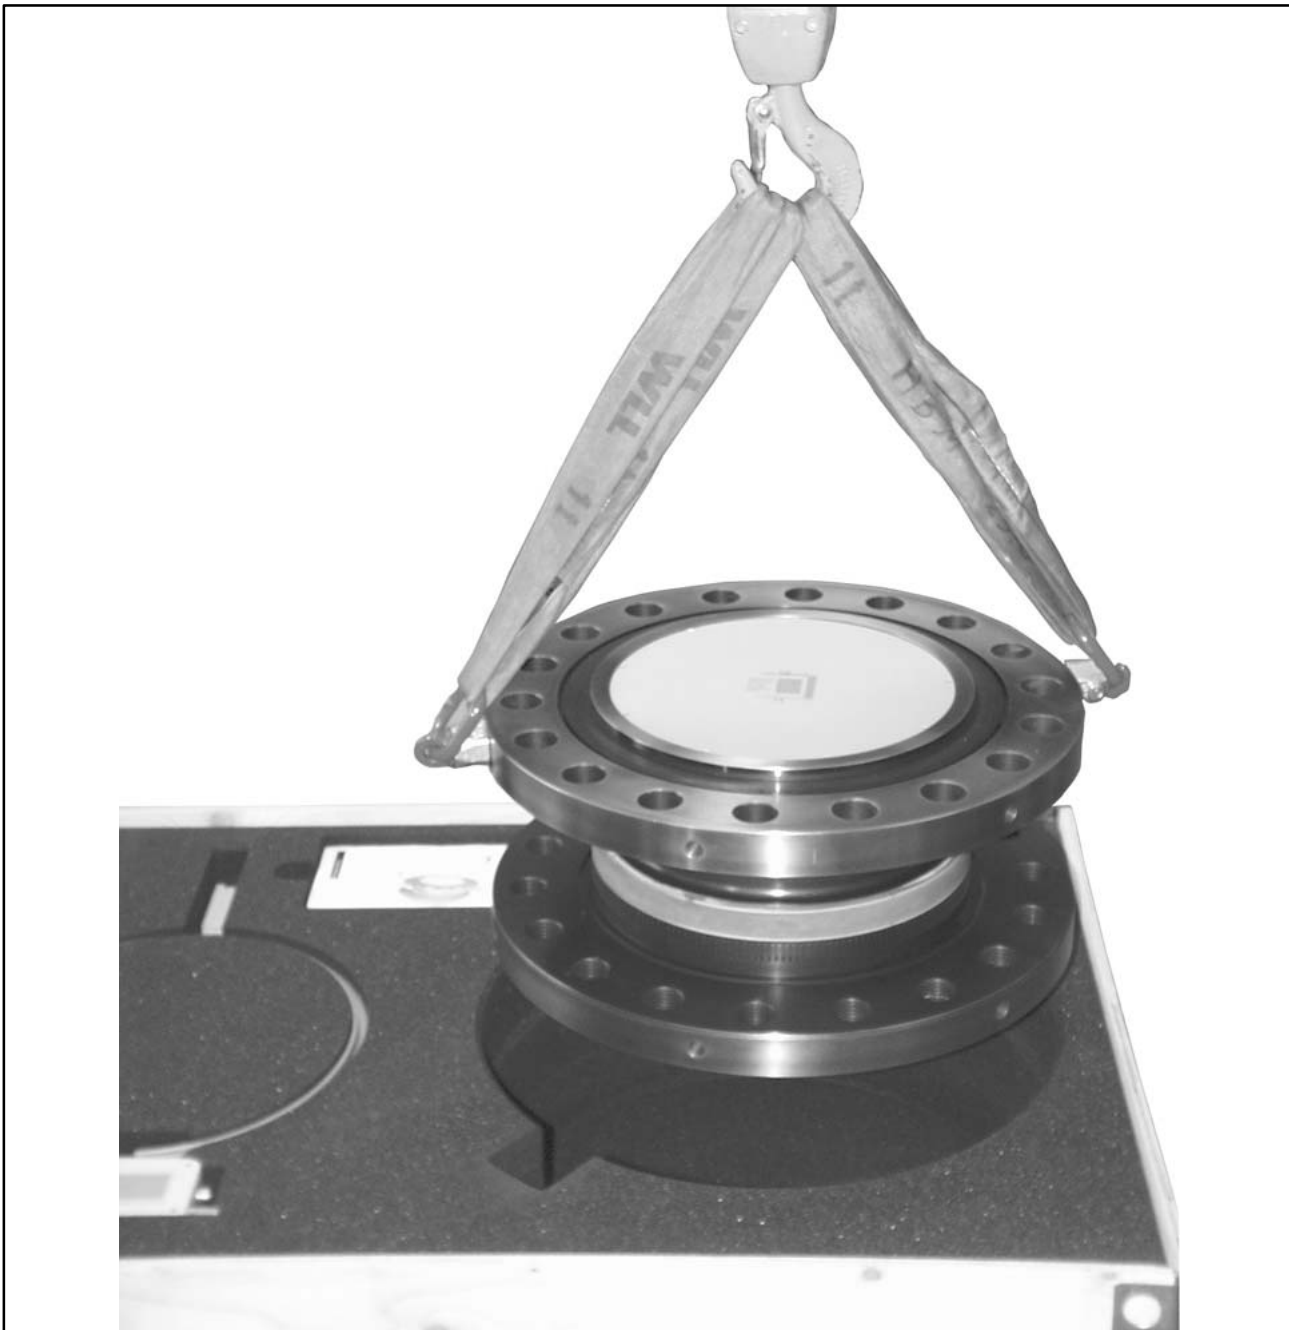

Fig. 4.2: Hoist the rotor out of its packaging
2. Fasten two equal-length ropes of sufficient bearing strength to the eye-bolts (each of the two ropes must be able to bear the full weight of the rotor) and hoist the rotor out of its packaging with the crane (see Fig. 4.2).